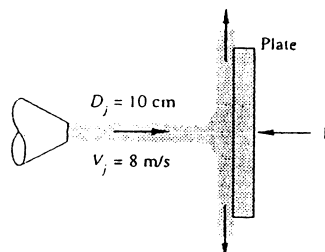

Fig. P3.40
3.40 The water jet in Fig. P3.40 strikes normal to a fixed plate. Neglect gravity and friction, and compute the force F in newtons required to hold the plate fixed.